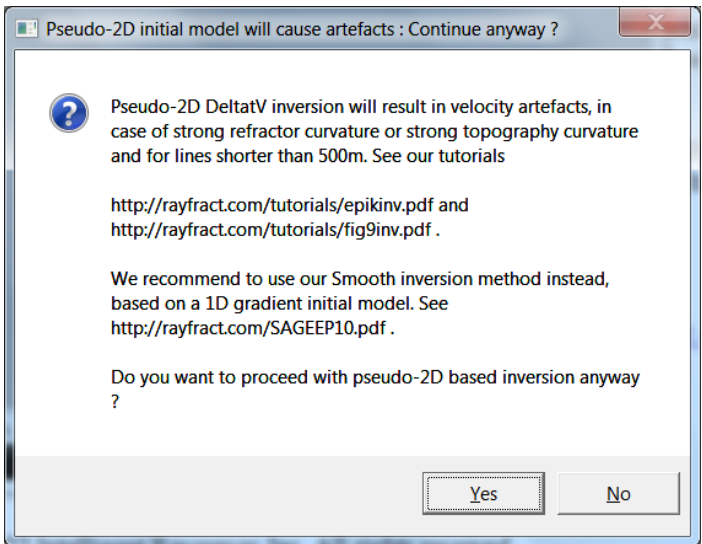

Fig. 14 : artefact warning prompt shown when user selects *DeltatV* menu items, recommending using *Smooth inversion* method instead.
- select *DeltatV*|*Automatic DeltatV* and confirm artefacts warning prompt (Fig. 14) to obtain Fig. 5.
In general we always recommend preferring our default and fail-safe *Smooth inversion* method as shown on next page (Sheehan et al. 2005). See the warning prompt shown with *DeltatV* menu items (Fig. 14).